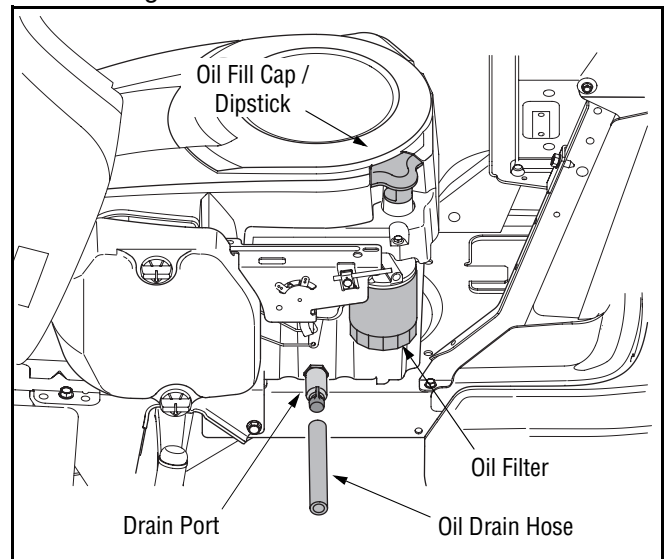

Figure 15
- Pop open the protective cap on the end of the oil drain valve to expose the drain port. See Figure 15